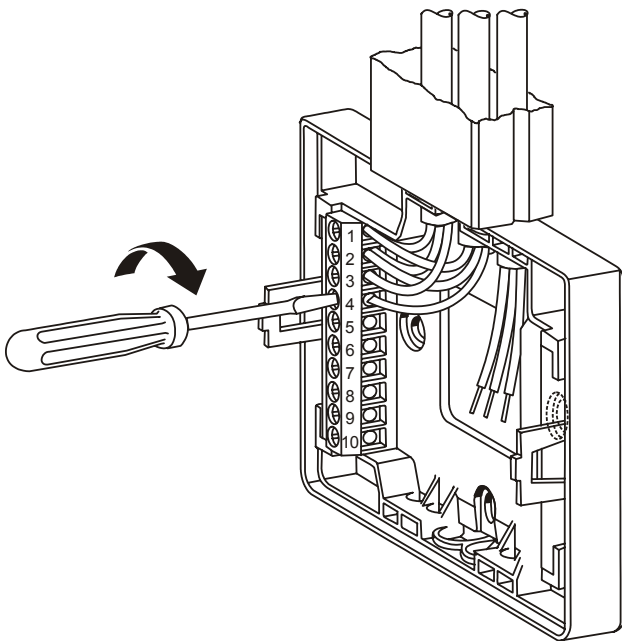

Fig. 7. Terminal box connections
4. Ensure that the wire entering the terminal block does not extend above the numbered face of the terminal block to avoid contact between the wires and the printed circuit board on the underside of the front cover (see Fig. 7).